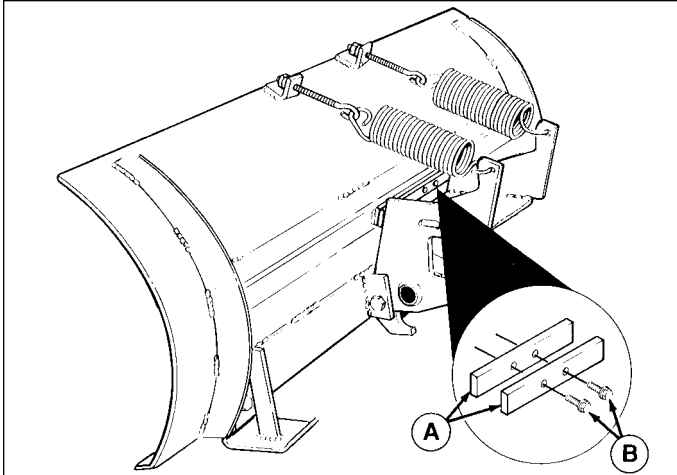

Figure 10. Bar Stop
2. **Baron/Broadmoor/LT/1600/2600 Series:** See Figure 10. Install one bar stop (A) using the two 5/16-18 x 1 taptite screws (B). Do not install second bar stop.
NOTE: See Figure 10 Generally, these models do not require the second bar stop to be used. However, if after adjusting the skid shoes all the way up, the blade is not able to make contact with the surface being plowed, bar stops must be added. Remove the dozer blade and install the second bar stop flush against the first one and remount blade assembly.